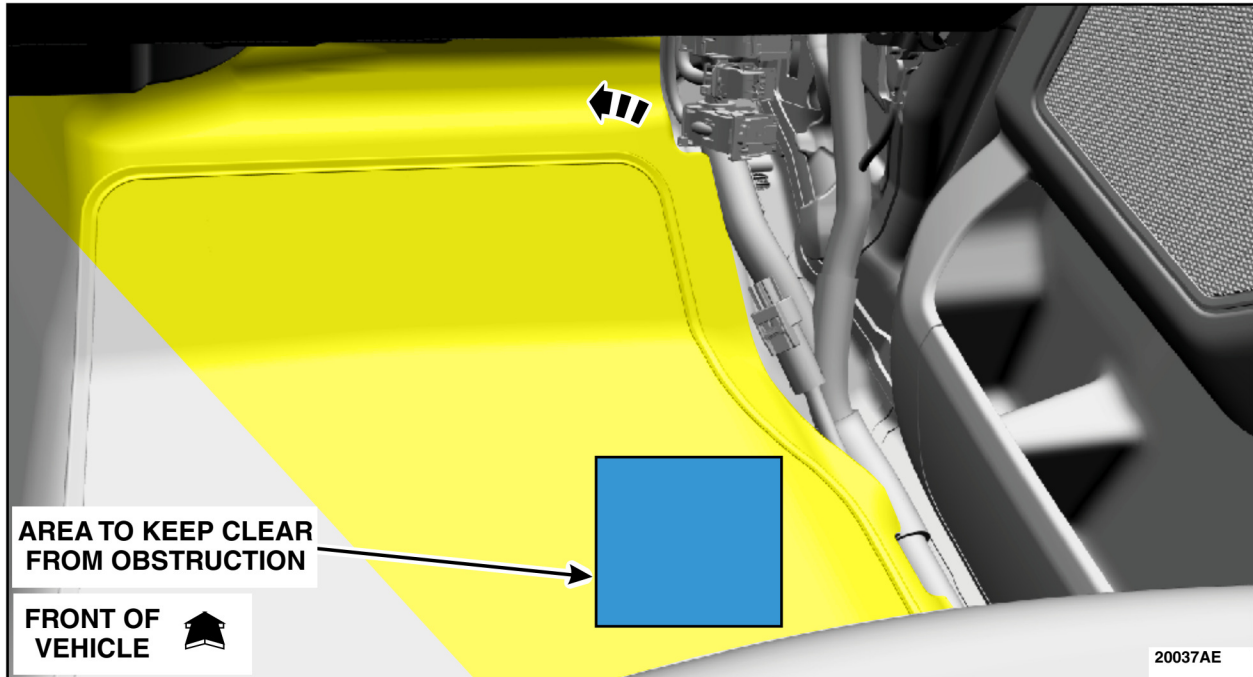

FIGURE 15
19. Position aside the RH carpet to expose the floor board. Use a block of wood or similar device to retain the carpet away from the area to be clear of obstruction. See Figure 15.